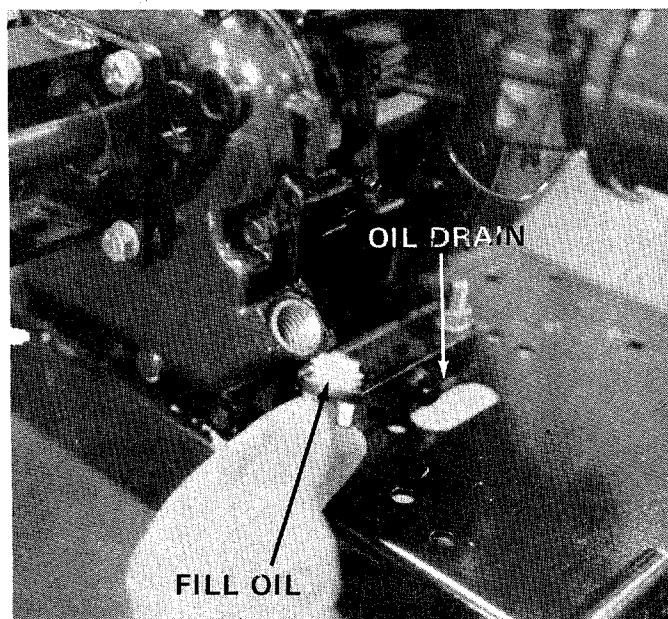

FIGURE 7
Change oil every twenty-five (25) operating hours or sooner if equipment is operated in extremely dusty or dirty conditions. See figure 7.